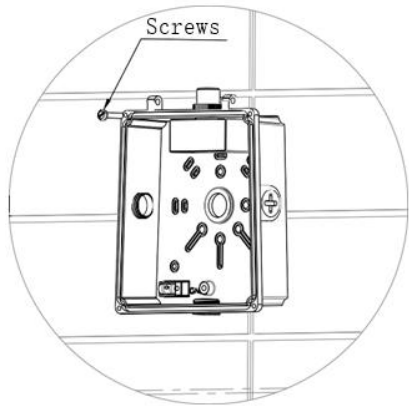

Fig. 1
1. Knock out the appropriate slots. Secure housing to a sturdy wall and check that the gasket is fully sealed. (Fig. 1)